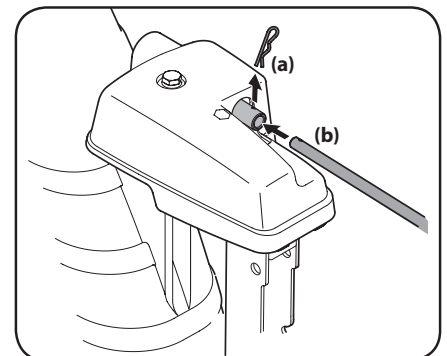

Figure 2-19
5. Remove hairpin clip (a) from rear of chute control head. See Figure 2-19.
6. Insert chute control rod (b) into rear of chute control head. See Figure 2-19. Secure chute control rod to chute control assembly with hairpin clip (a) removed in Step 5.